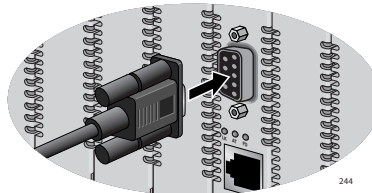

Figure 44. Connecting a Management Cable to the RS-232 Terminal Port on an AT-CV5M01 Management Card
- a. Connect one end of the RS-232 straight-through management cable to the RS-232 terminal port on the front of the AT-CV5M01 Management Card, as shown in Figure 44.